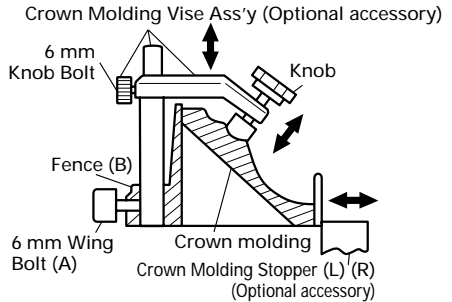

Fig. 21
- (2) The crown molding vise (B) (Optional accessory) can be mounted on either the left fence (Fence (B)) or the right fence (Fence (A)). It can unite with the slope of the crown molding and vise can be pressed down. Then turn the upper knob, as necessary, to securely attach the crown molding in position. To raise or lower the vise assembly, first loosen the 6 mm wing bolt. After adjusting the height, firmly tighten the 6 mm wing bolt; then turn the upper knob, as necessary, to securely attach the crown molding in position (See Fig 21).
Position crown molding with its WALL CONTACT EDGE against the guide fence and its CEILING CONTACT EDGE against the Crown molding Stoppers as shown in Fig. 21. Adjust the Crown molding Stoppers according to the size of the crown molding. Tighten the 6 mm wing bolt to secure the Crown molding Stoppers.